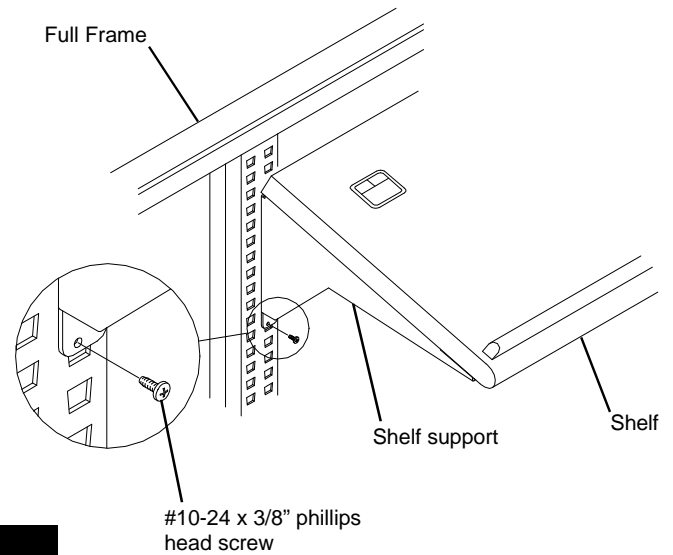

Figure 4
5. Lock the shelf supports in position with the #10-24 x 3/8" long phillips head screws provided. See **Figure 4**.